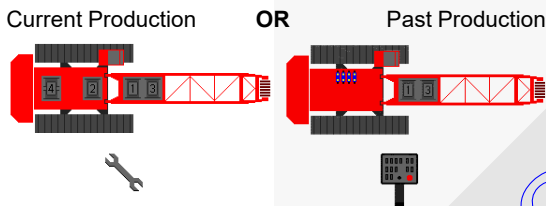

FIGURE 3-29
2. Scroll to and enter the setup screen (Figure 3-29).